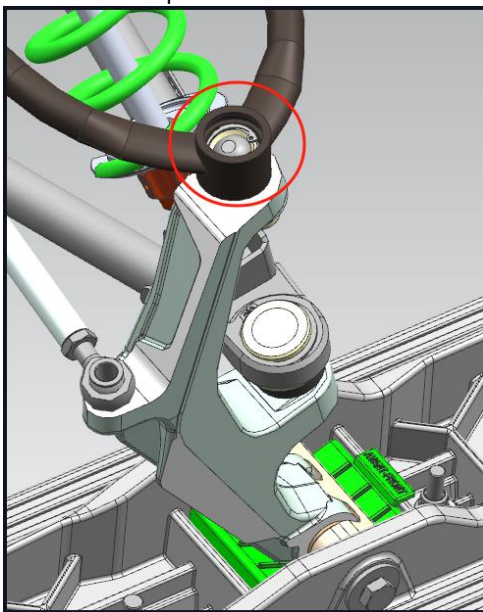

Fig. 45 -Grease opening (left side)
2. Apply grease to the upper spherical support in the open cavity (Fig. 45).